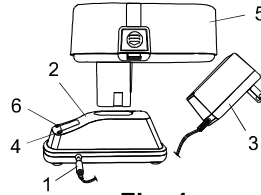

Fig. 1
2. Insert small charger plug (1) into charger stand (2) and plug the battery charger (3) into the 110–120 V 60 Hz wall receptacle (Fig. 1).